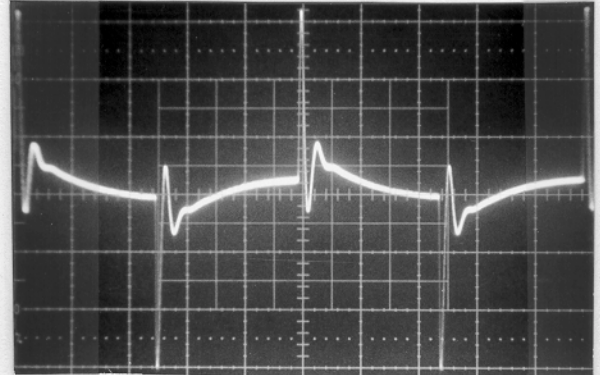

Fig. 14. Hi-Boost to 10.
- 3) Increase hi-boost to 10- compare to Fig. 14. Turn to 0.